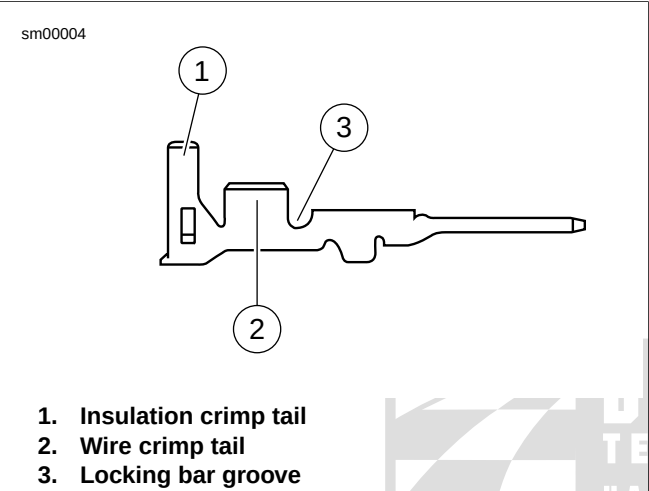
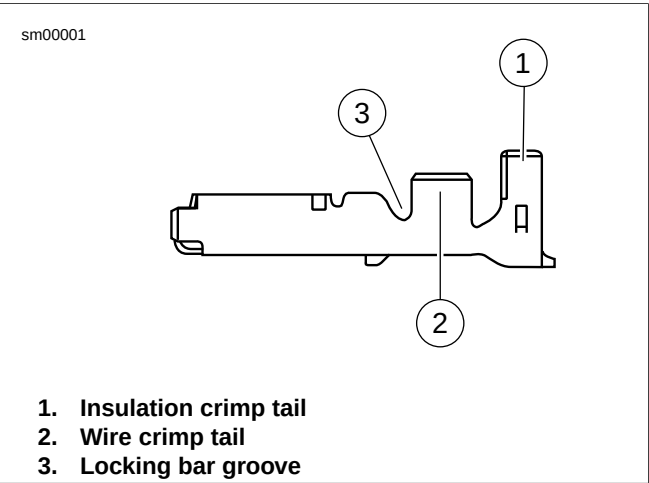

Figure A-4. AMP Multilock Connector: Pin Terminal
Figure A-5. AMP Multilock Connector: Socket Terminal
- 2. See Figure A-4 and Figure A-5. Select the pin/socket terminals from the parts catalog and identify the insulation crimp tails (1) and the wire crimp tails (2) and the groove for the crimp tool locking bar (3).
See Figure A-4 and Figure A-5. Hold the terminal with the insulation crimp tail (1) facing up. The tool will hold the terminal by the locking bar groove (3) and crimp the wire crimp tail (2) around the bare wire of the stripped lead and the insulation crimp tail around the insulation.